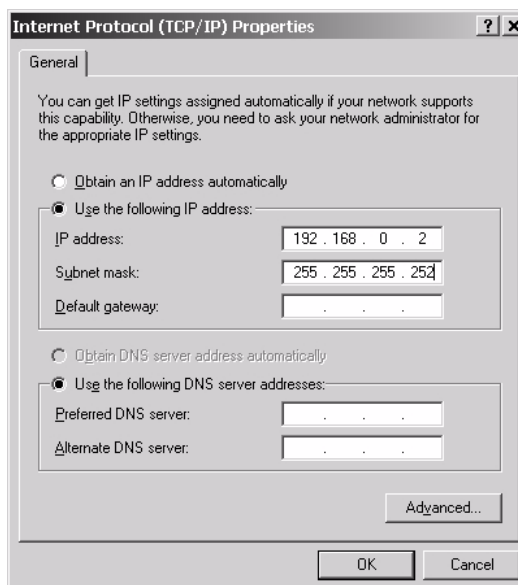

Figure 72: Internet Protocol Properties - Windows 2000
6. Click **Properties**. The Internet Protocol Properties window appears as shown in Figure 72.